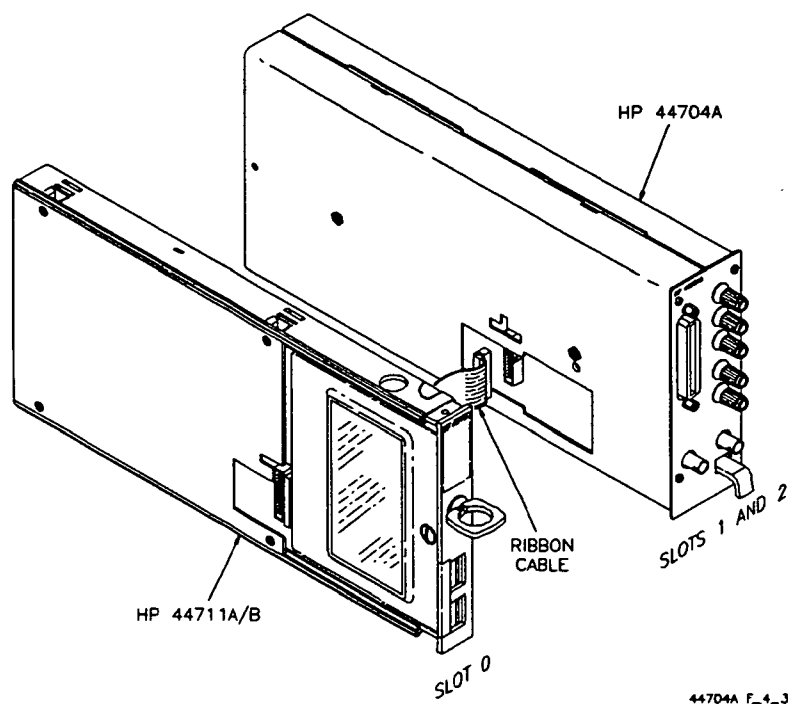

Figure 4-3. Ribbon Cable Test Setup
3. Install the FET multiplexer component module in the mainframe next to the voltmeter. Connect the ribbon cable between the FET multiplexer and the voltmeter as shown in Figure 4-3. Note the slot numbers where the modules are installed.